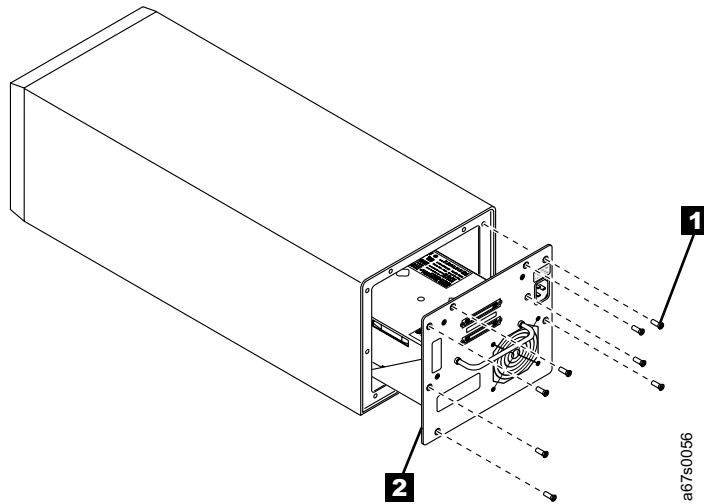

Figure 27. Removing the drive assembly sled from the 3581 Tape Autoloader
4. Remove the eight screws ( **1** in Figure 27) that secure the drive assembly sled **2** to the autoloader.